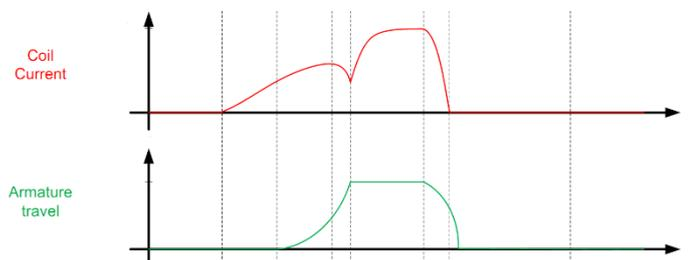

Figure 5 – Command Coil Current vs. Plunger Movement
- > **Command Coil Signatures** – By analyzing the command coil signatures, information regarding lubrication, electrical coil performance and latch operation can be extracted. However, this diagnostic is most effective when it is performed as a "First Trip" activity. First Trip is performed when the circuit breaker is in-service, and has not been operated for a long time. Lubrication problems are easiest to identify in this scenario. As the armature of the command moves, an expected command coil signature is generated. Figure 5 illustrates a typical coil current signature. These signatures can be compared and trended over time.